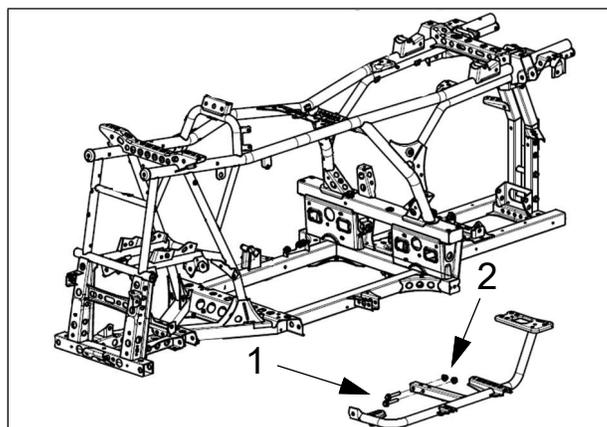
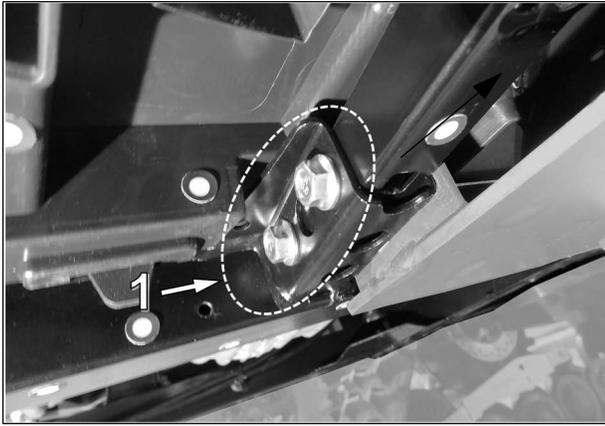

Fig. 3
Fig. 4
- Remove footrest sub-frame assembly M8 bolts (1) & nuts (2) located in the middle position. Fig. 3 & Fig.4